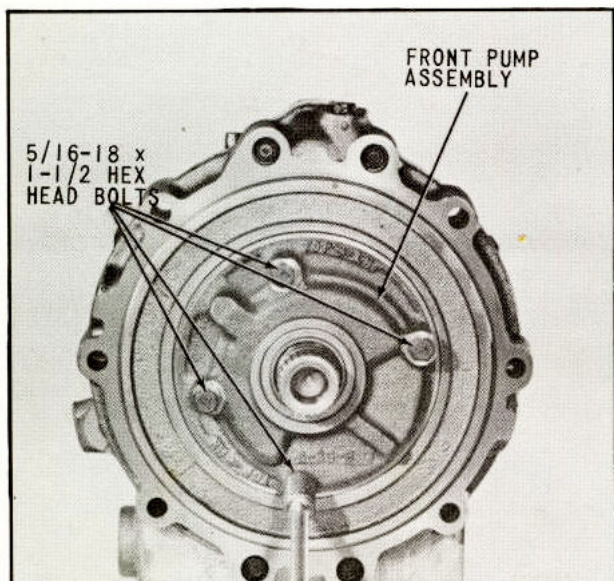

Fig. 66 Mounting Front Pump to Adapter
71. With the pump assembled squarely against the adapter and pump gasket, and the seal assembly tool removed, install four (4) 5/16-18 hex head bolts, (Fig. 66). Tighten hex head bolts evenly to torque of 17-22 pounds-feet.